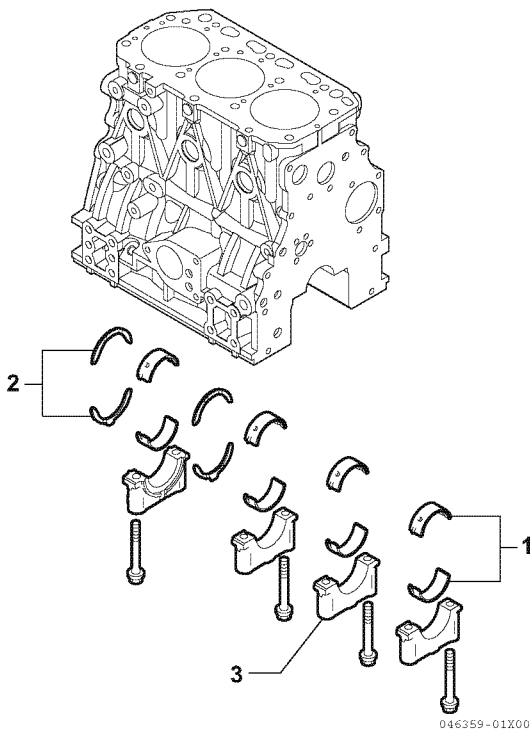

Figure 6-58
4. Remove the main bearing caps (3, **Figure 6-58**). Be sure to note the markings on the main bearing caps, or mark them yourself, so they can be reinstalled in the same order as they were removed. Do not remove the bearing inserts at this time.
7. Remove the bearing inserts (1, **Figure 6-58**) and thrust bearings (2, **Figure 6-58**).